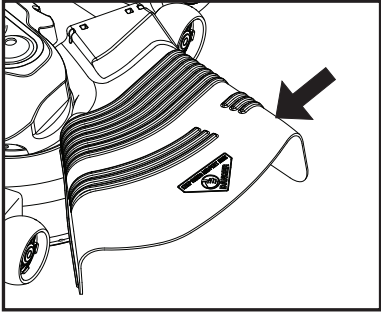

Fig. 12
**CAUTION:** Do not operate the mower without either the entire grass catcher, on mowers so equipped, or the deflector chute in place (See Fig. 12).